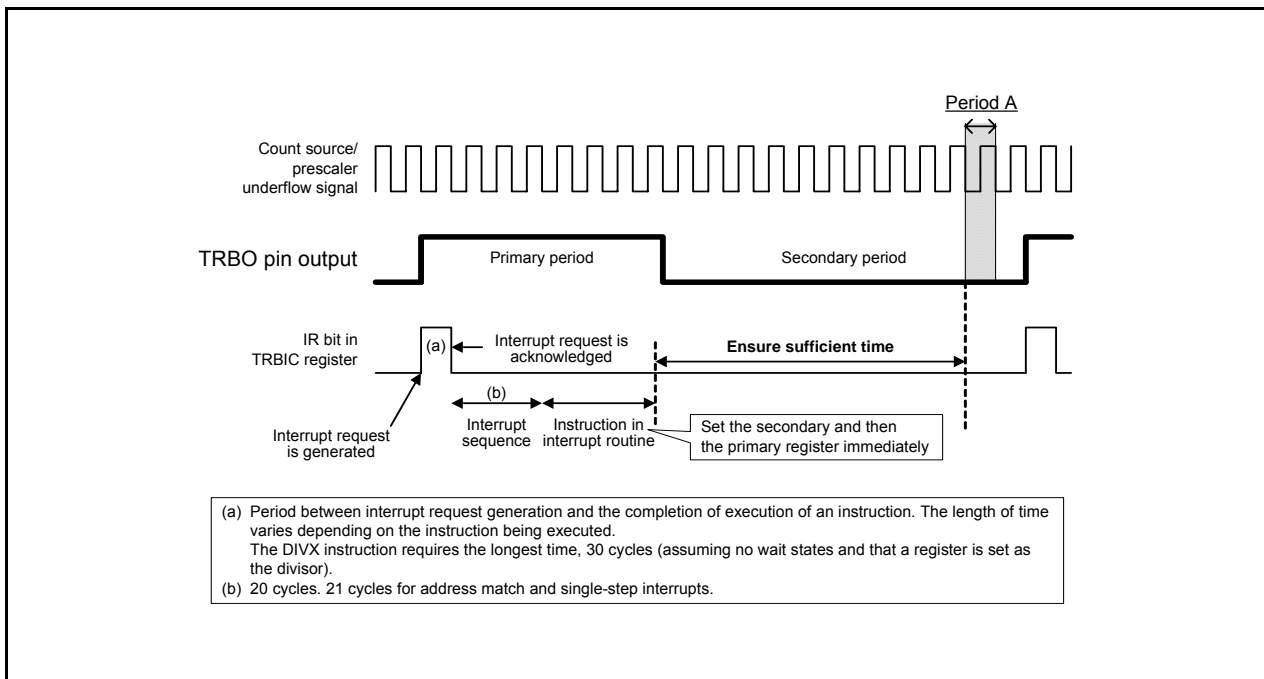

Figure 23.2 Workaround Example (a) When Timer RB interrupt is Used
- (1) To write to registers TRBPRES and TRBPR during count operation (TCSTF bit is set to 1), note the following points:
- (2) To change registers TRBPRES and TRBPR during count operation (TCSTF bit is set to 1), synchronize the TRBO output cycle using a timer RB interrupt, etc. This operation should be performed only once in the same output cycle. Also, make sure that writing to the TRBPR register does not occur during period A shown in Figures 23.2 and 23.3.
As shown in Figure 23.2, write to registers TRBSC and TRBPR in the timer RB interrupt routine. These write operations must be completed by the beginning of period A.